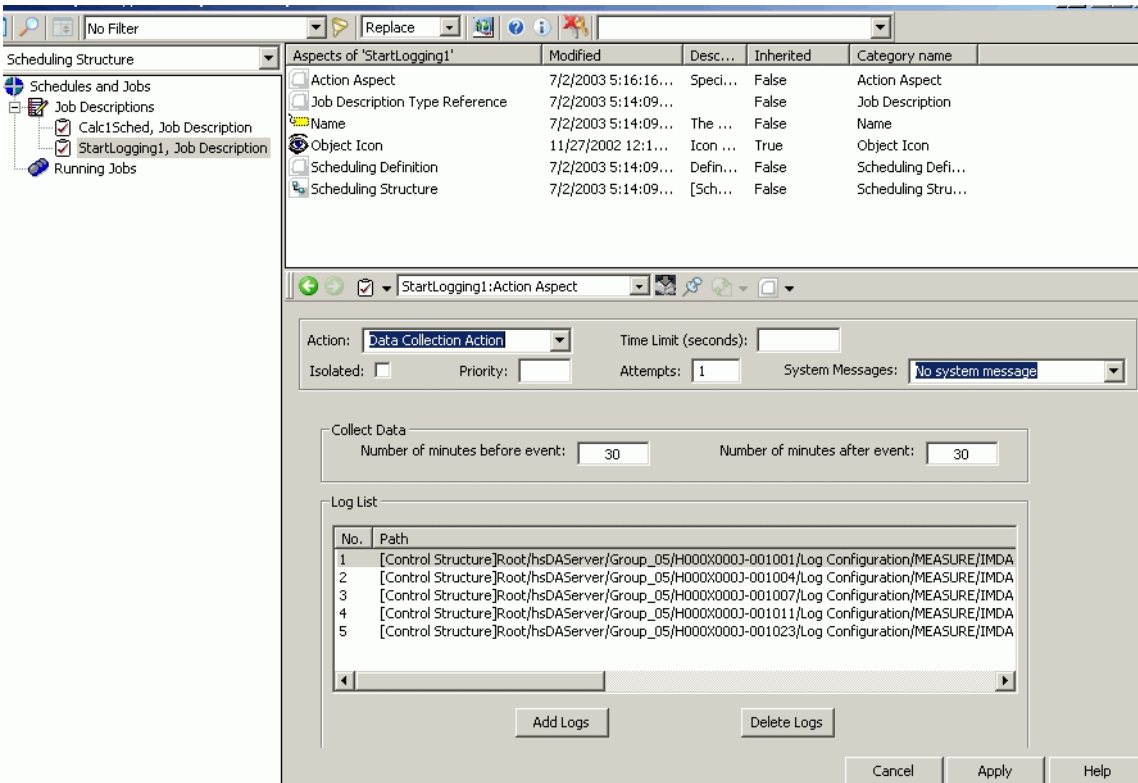

Figure 141. Logs Added to the Log List
- b. Select the object whose log will be added to the list, then select the log in the log hierarchy, and click **Add Log To List**. This adds the selected log to the log list, Figure 141.